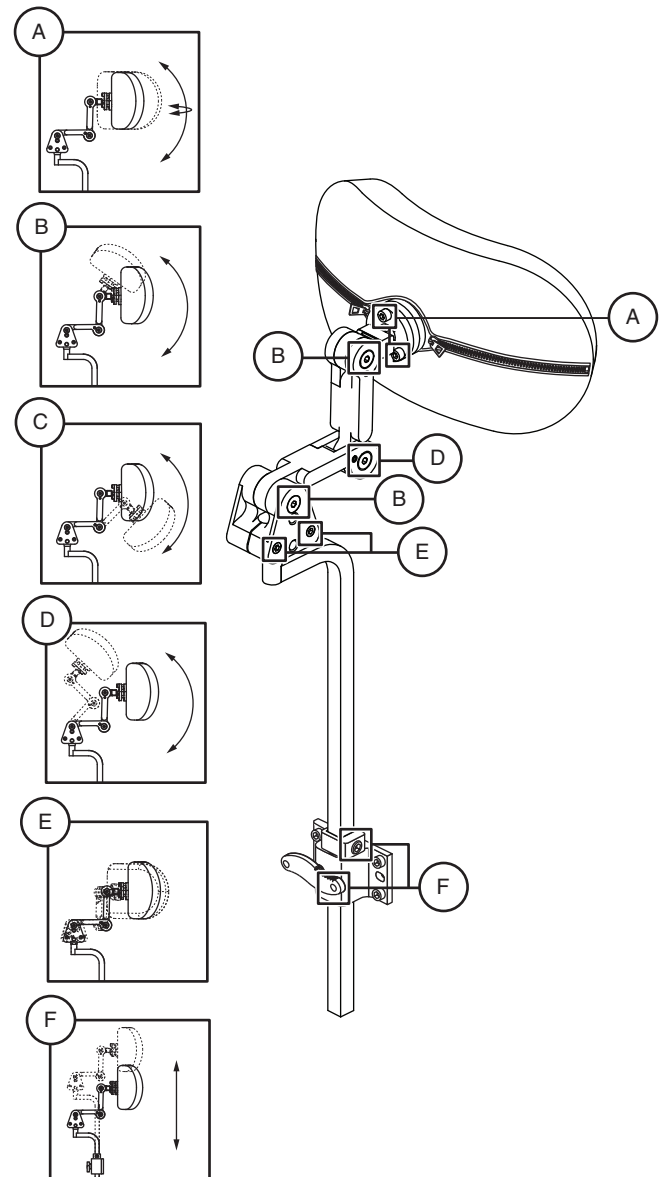

Figure 21. Headrest Adjustment Components
1. Loosen the adjustment screws that correspond to the desired adjustments. **See figure 21.**